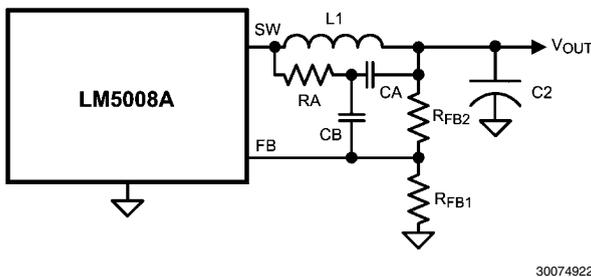

FIGURE 8. Minimum Output Ripple Using Ripple Injection
b) Minimum ripple configuration: If the application requires a lower value of ripple (<10 mVp-p), the circuit of Figure 8 can be used. R3 is removed, and the resulting output ripple voltage is determined by the inductor's ripple current and C2's characteristics. RA and CA are chosen to generate a sawtooth waveform at their junction, and that voltage is AC-coupled to the FB pin via CB. To determine the values for RA, CA and CB, use the following procedure: